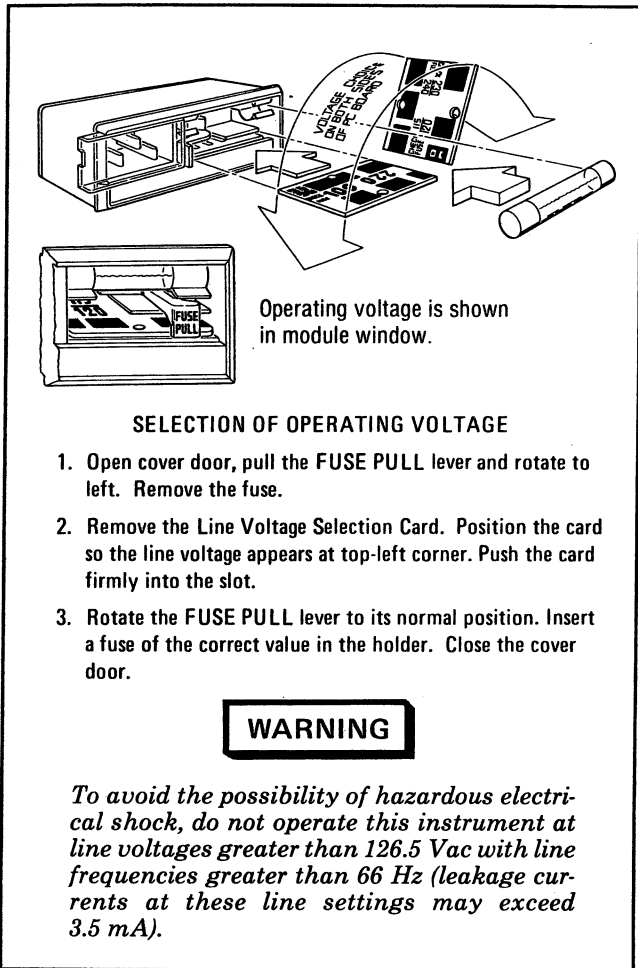

Figure 2-1. Line Voltage and Fuse Selection
*Verify that the line voltage selection card and the fuse are matched to the power source. Refer to Figure 2-1, Line Voltage and Fuse Selection.*